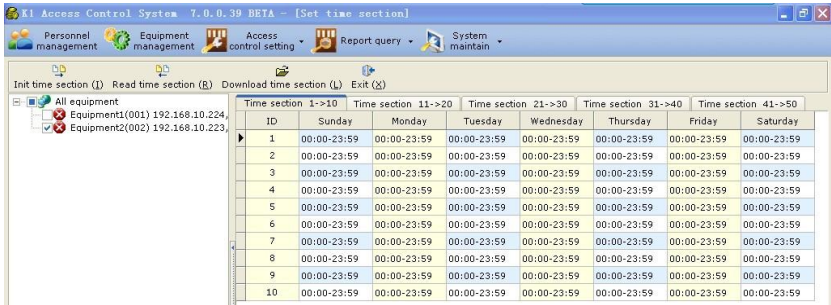

Figure 2.43
2. Set the time section on the time section list (Figure 2.43).
3. Select single/multi equipment > Confirm the equipment is online by “Online inspection” > Download the time section. (All time sections in the time section list are downloaded to the corresponding equipment) (Figure 2.43).